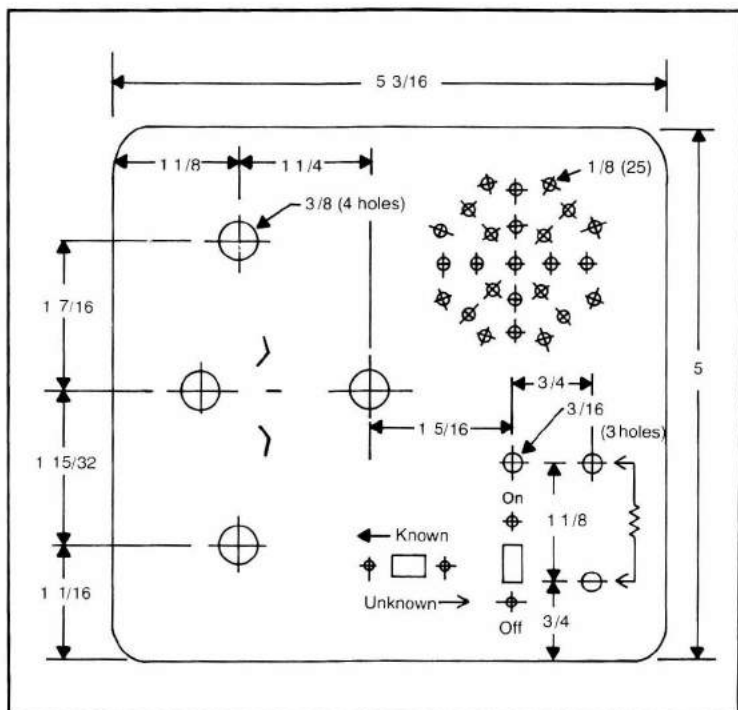

Fig. 8-4. Layout dimensions for front panel. (Courtesy Industrial Education.)
2. Lay out and punch or drill the front panel. See Fig. 8-4 for a layout which can be used. Be sure to drill the right size holes for the parts to be used.